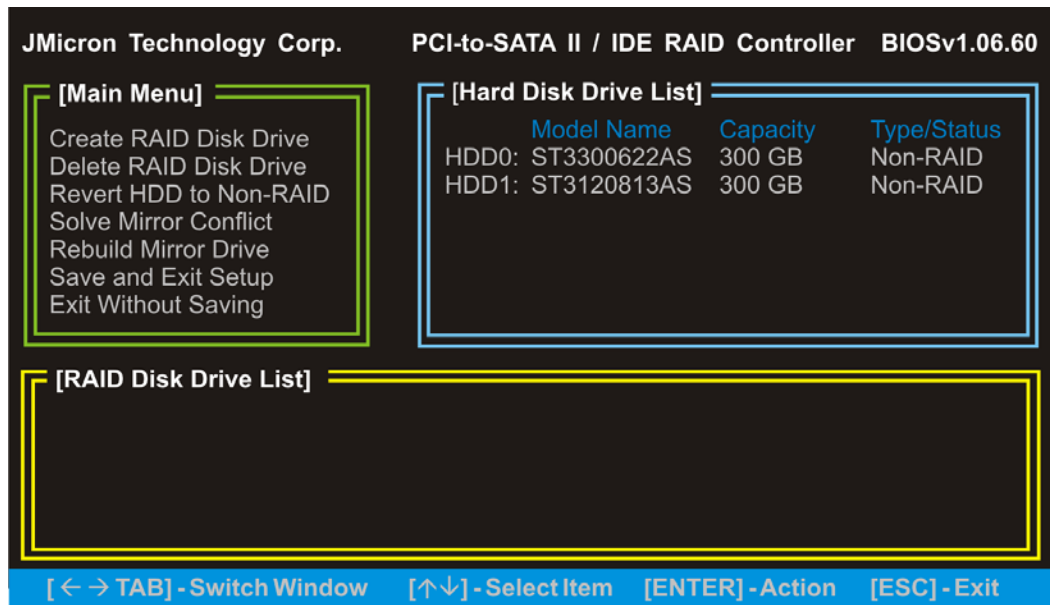

Figure E-2: Enter the RAID Setup Utility
Step 3: The main RAID Setup Utility menu opens (**Figure E-2**). To move from one window to another, press the **Tab** key. Below is a brief description of each window.